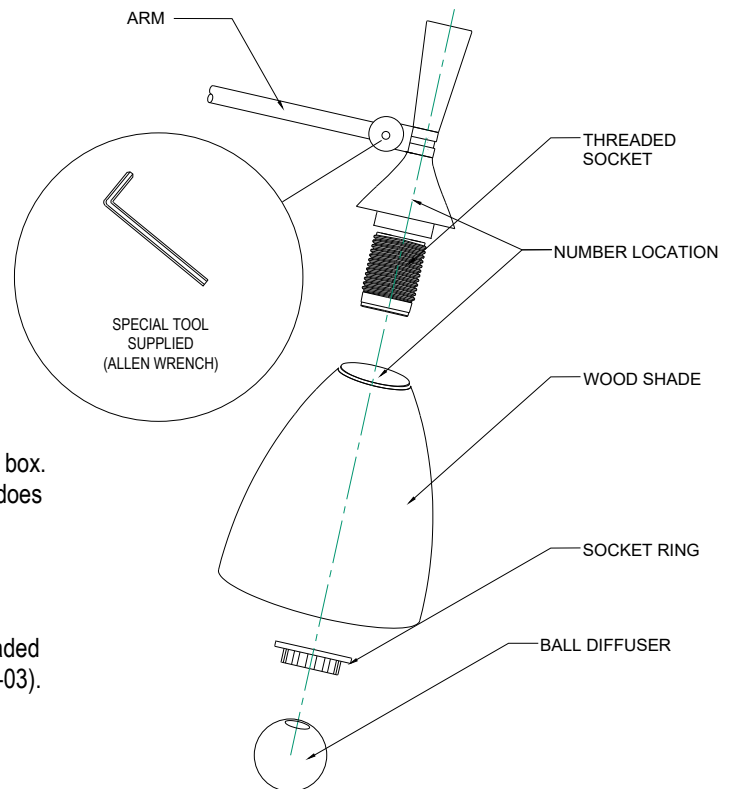

FIGURE-03
- Install the wood shade to the arms, fasten the socket ring to the threaded socket to secure it. Attach the ball diffuser to the socket. (See Figure-03).